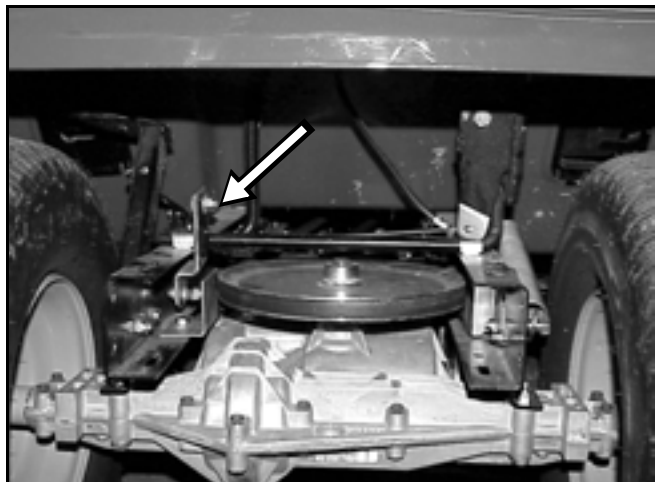

Figure 54
2. Loosen the bolt between the shift pivot and the shift pivot lever (Figure 54).